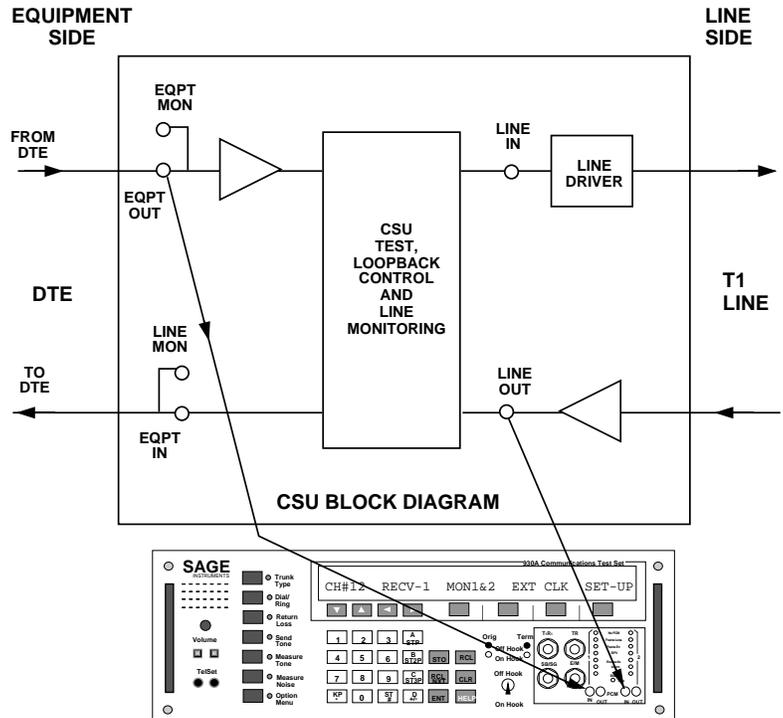

Figure 4-5
2. Plug test cords into the two inputs of the **930A** and then plug the other ends of these test cords into the **LINE OUT** and **EQPT OUT** jacks on the **CSU**. Refer to **Figure 4-5**.